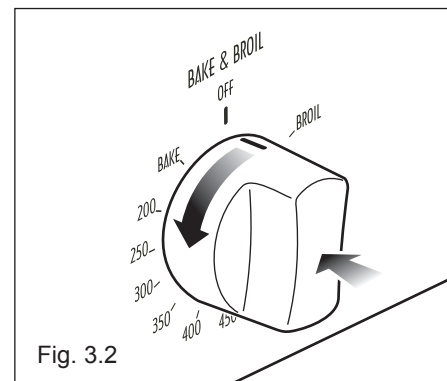

Fig. 3.2
- 2) Press the oven control knob right down and turn counter-clockwise (fig. 3.2) to max position **550**.